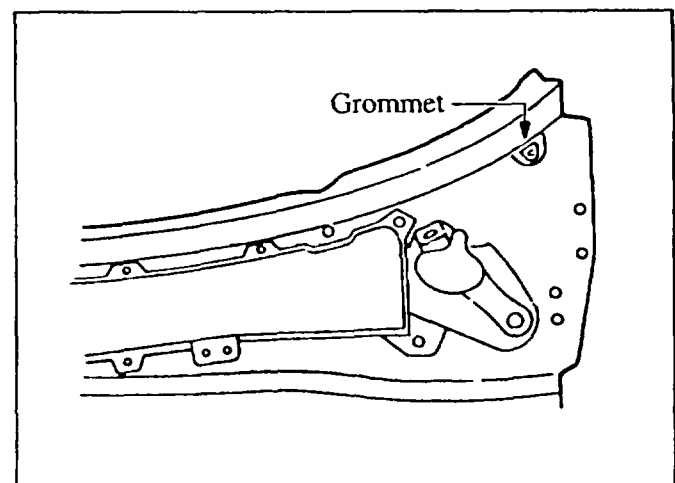

Figure 14: Left Side Grommet
- Check the cowl grommet for leaks by spraying water on it. Replace the grommet if it leaks. Apply sealer to the bottom side of the grommet during installation. **Figure 14.**